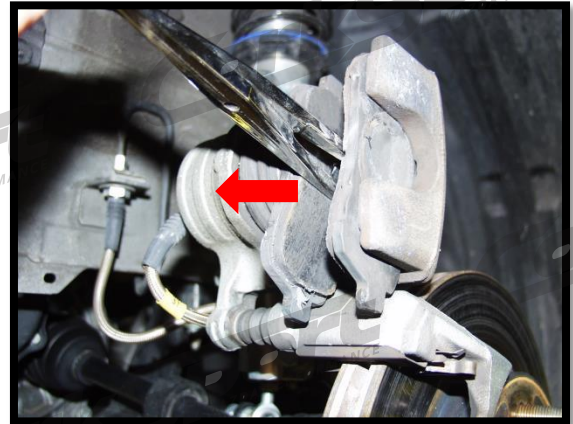

Figure 2a
- a) Place the old pads into the caliper, and use a caliper spreader tool to push the piston back inside of the caliper (Figure 2a).